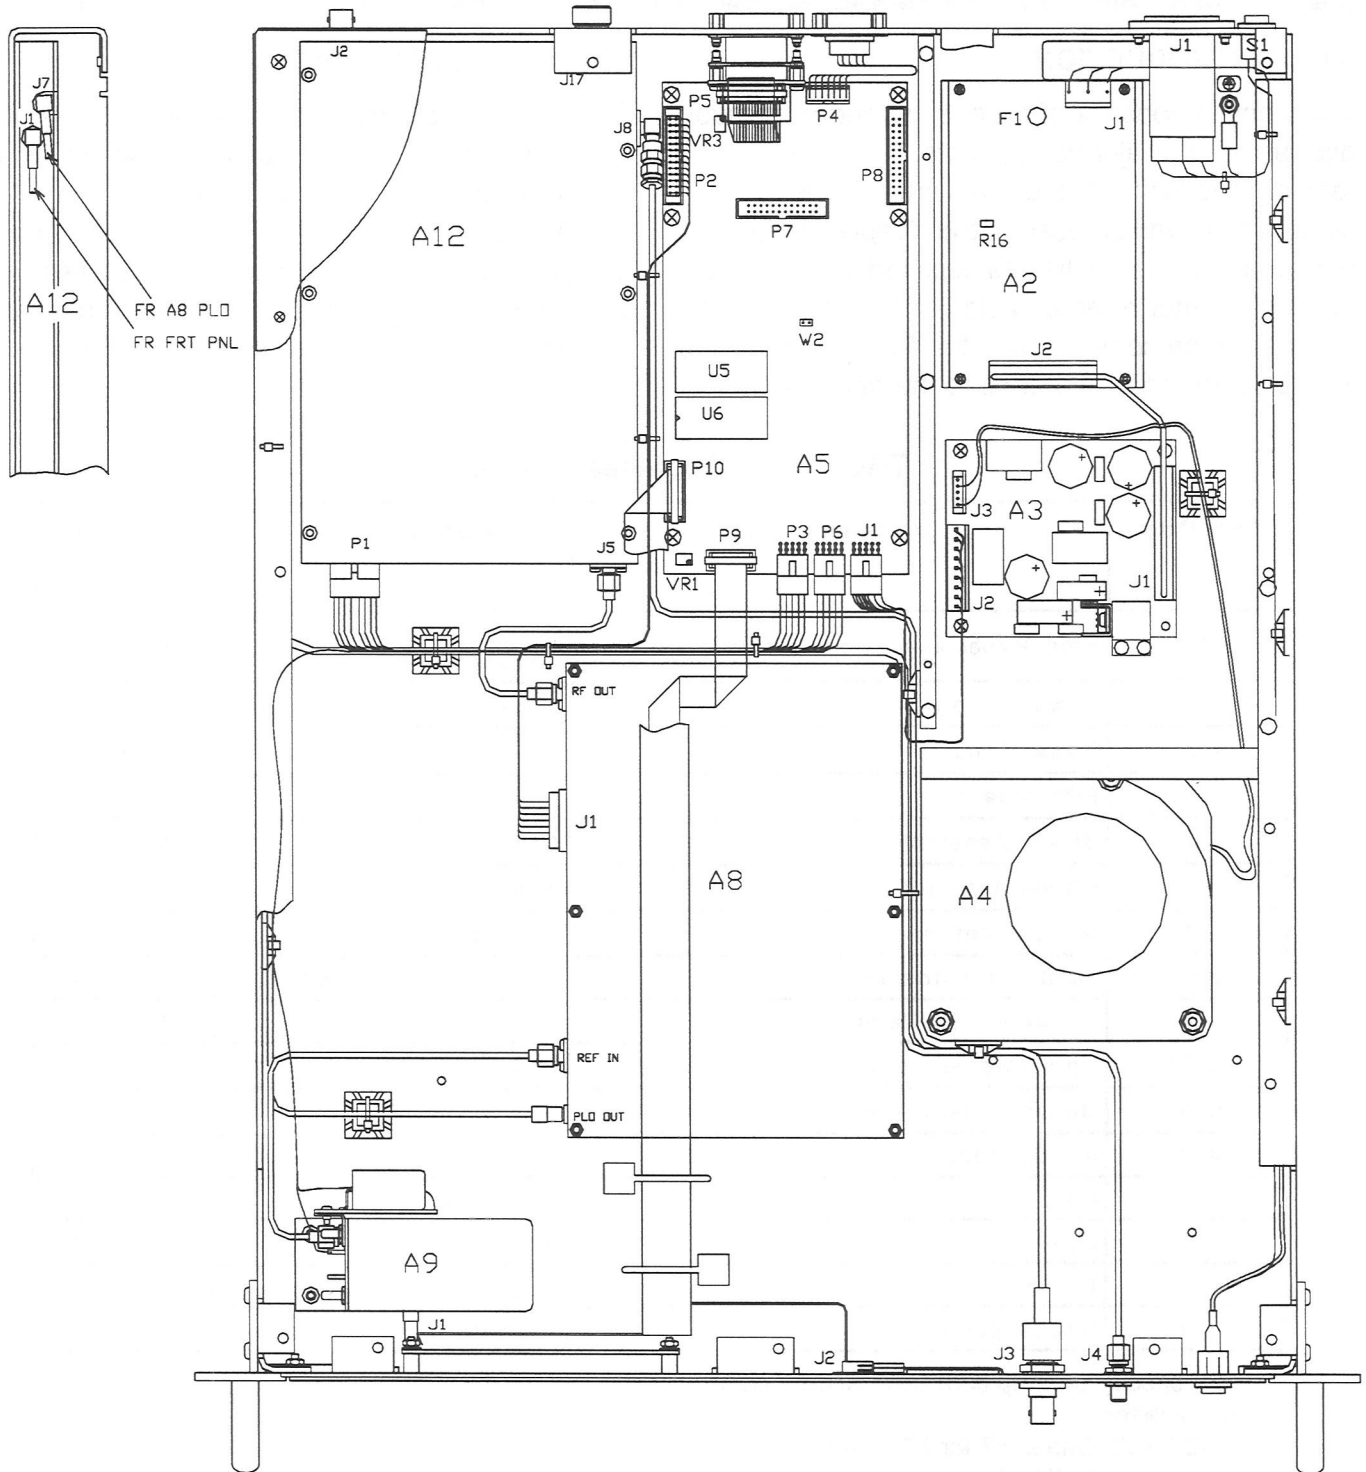

Figure 6-1. Down Converter Component Location Diagram
The UCS up converter is constructed with four basic integrated modules. The purpose of this section is to provide the necessary information for regular maintenance on the unit and, in case of difficulty, for locating the fault. Section 6 provides the parts information and component location diagram (Figure 6-1) necessary to obtain replacement modules. It is not within the scope of this publication to provide service information on the modules themselves. Any attempt to service the individual modules will void any warranty or exchange policies that may be in effect.
The accuracy of the frequency conversion of the up converter is entirely dependent upon the 10 MHz reference oscillator. Because of aging drift in this oscillator, it may be necessary to adjust it periodically. To do this, refer to Figure 6-1 and locate the access screw on the left side of the unit just behind the front panel. Remove the access screw and set the frequency using a **small flat, insulating screwdriver**. When making this adjustment, the frequency can be monitored in one of two ways: Inject a 70 (140) MHz signal into the input of the unit and monitor the frequency of the output, comparing it to a known on-channel frequency; or, remove the cover of the unit and measure the frequency of the PLO at connector A8IFLO. This should be exactly 1,112.500 MHz if the reference oscillator is correctly set. After setting the oscillator frequency, replace the access screw in the reference oscillator before returning the unit into service.
The contrast of the LCD display is dependent upon the electrical bias applied to it from the **A5** assembly. To change the bias, refer to Figure 6-1 and locate potentiometer VR1. Make adjustment using a **small flat, insulating screwdriver**.
If the replacement of the Power Supply module **A2** is required, the +5 volt output can be adjusted by locating the adjustment screw (R16) on the module (see Figure 6-1), and, monitoring the +5 volt output with a voltmeter, setting the potentiometer for +5 volts $\pm 5\%$. Adjusting this voltage also affects the +18 and -15 VDC voltages.
To change the port setting from the default RS-422 setting to RS-232, locate the microprocessor board **A5** and add a jumper over the two pins labeled **W2**. See Figure 6-1 for the location. In this configuration on connector **J5**, pins 6 and 9 are not used, pin 4 is Tx D and pin 3 is Rx D.
When using an external power detector (see section 2-4), it may be necessary to make an adjustment for zero power. Referring to Figure 6-1, locate the VR3 on the **A2** assembly. With the external detector terminated into a passive load, set this screwdriver adjustment to obtain a voltage null between pins 6 and 7 of **J6** on the rear panel.
To effect removal and replacement of the UCS up converter in the system, refer to the applicable system manual. To remove and replace a module in the unit, refer to Figure 6-1 for locations. All hardware mounting is done with standard #2-56, #4-40, and #6-32 hardware. Exact location of screws, nuts, washers, and spacers should be noted when a module is removed so that the replacement module can be assembled in a like manner. Likewise, if any of the cabling is repaired or disturbed, the affected cables should be dressed and anchored as before. Tighten all hardware and ensure that the unit is free of loose parts before replacing cover and returning to service. To effect the removal of a particular module:
The operational instructions are given in Section 3 and the Theory of Operation is presented in Section 4 of this publication. You should be thoroughly familiar with the contents of both sections before attempting a repair. In addition to these two sections, Figure 6-1 shows the location of all of the cables and wires which interconnect the various modules.
This section consists of a parts list and a location diagram of all major components, RF and wiring interconnections the UCS up converter. Table 6-1 contains all of the major repairable and replaceable modules and sub-assemblies as depicted in Figures 6-1 and 6-2. Either refer to Table 6-1 for the part number or find the component in the figure and use the Ref. Des. to cross reference to the part number.